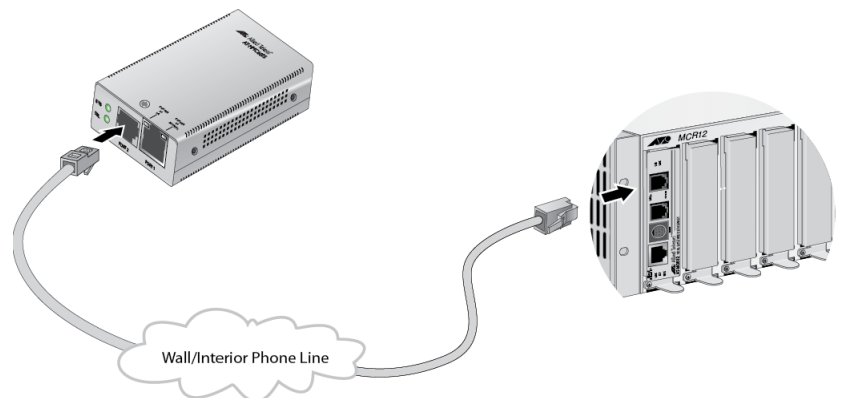

Figure 17. VDSL Line to Wall/Interior Phone Line
2. Connect a telephone line cable from the VDSL Line port to the wall/interior telephone line, as shown in Figure 17, so that the Provider unit can communicate with the Subscriber unit.